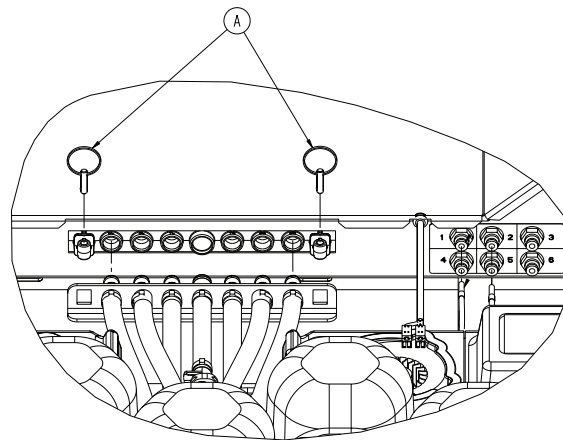

Figure 6 – Retaining pins
5. Disconnect the quick disconnect fitting (Z).
6. Remove the two retaining pins (A) from the hose quick connection on the foot box assembly (Figure 6). Save the pins.